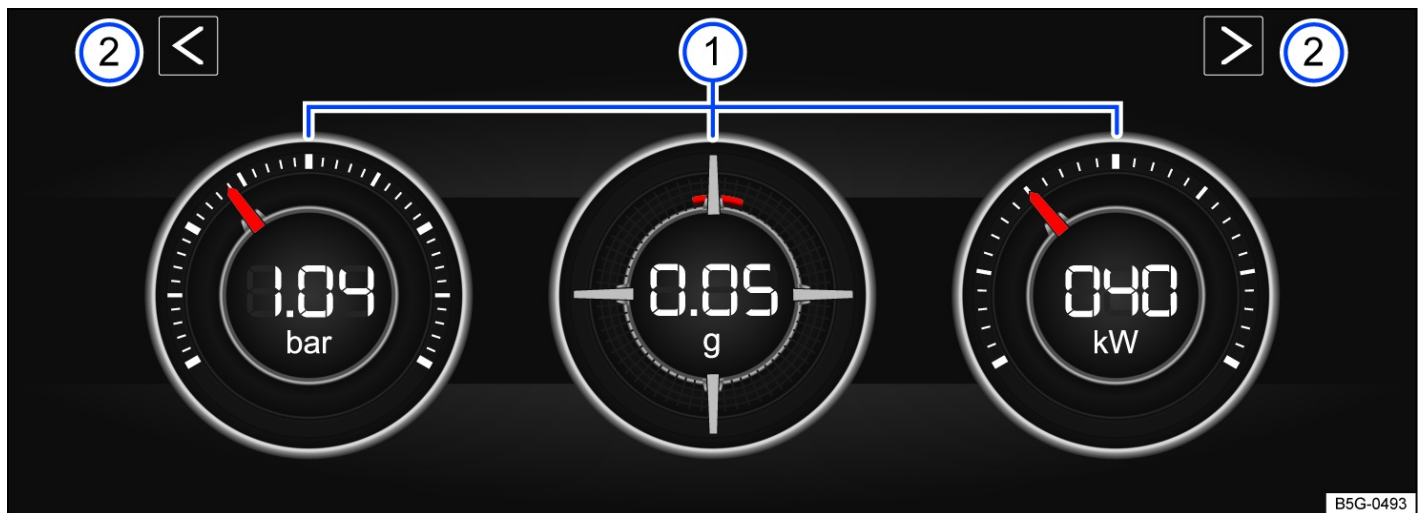

Fig. 1 On the Infotainment system display: performance monitor.
If you would like to switch between the performance monitor and the lap timer, tap one of the arrow buttons on the left and right above the instruments → Fig. 1 ②.
The display can show a maximum of three instruments at the same time. Each instrument can be selected for each display area → Fig. 1 ① (left, middle, right).